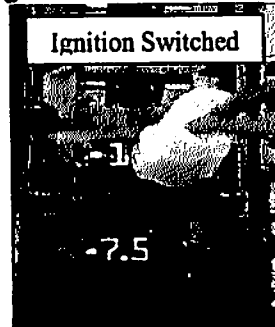

Figure 6
- 6) If Power Socket is ignition switched, attach **BOTH** purple and red wires to fuse tap on "cold" side of fuse (see Figure 6).